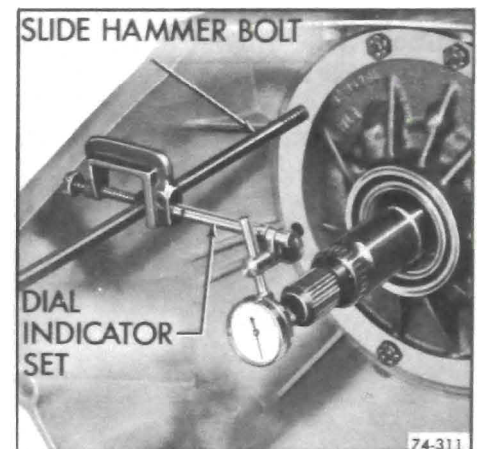

Figure 74-311
3. Attach slide hammer bolt to threaded hole in oil pump. See Figure 74-311. With flat of hand on end of input shaft move shaft rearward. Install dial indicator set J-8001 on rod and "O" dial indicator on end of input shaft. Push on end of output shaft to move shaft forward. The reading obtained will be the clearance. There are three selective thrust washers available. .099/.095, .081/.077 and .063/.059.